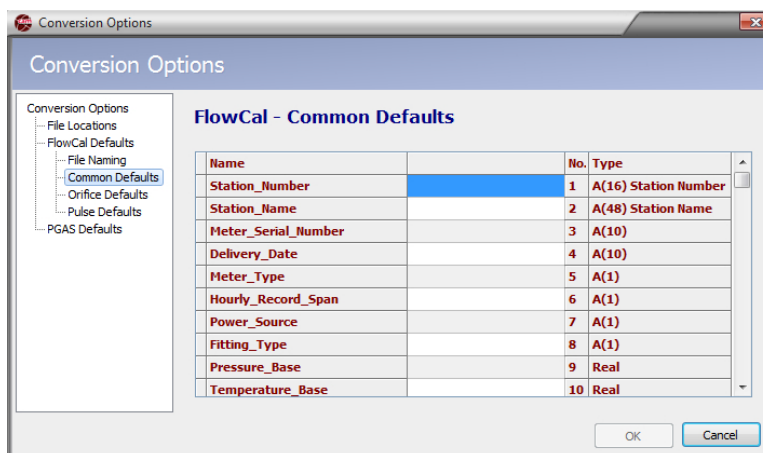

Figure 5.3—Flow-Cal Common Defaults dialog
- Common Defaults (Figure 5.3, page 65)